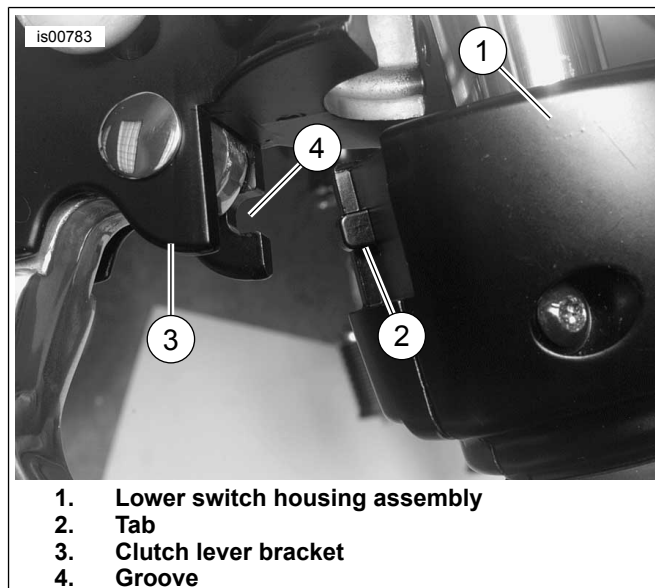

Figure 15. Clutch Lever Bracket Fit to Left Handlebar Switch Housing
- Position clutch hand lever assembly inboard of switch housing assembly. See Figure 15. Engage tab (2) on lower switch housing (1) with groove (4) at bottom of clutch lever bracket (3).